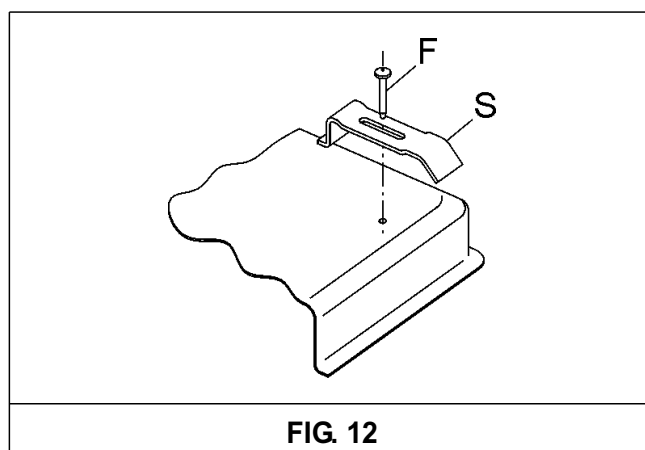

FIG. 12
- Fix the hob with the proper brackets "S" and turn the screw "F" until the bracket "S" stick on the top (fig. 12).